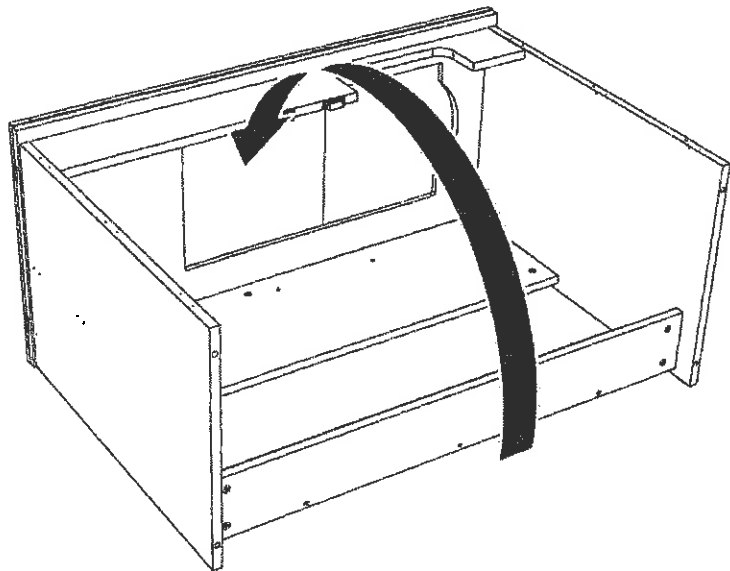

FIG. 9A
Step 9. Once Top Assembly (A, B, C) is on securely, with 2 people CAREFULLY flip the cabinet on its back, as shown in FIG. 9A.